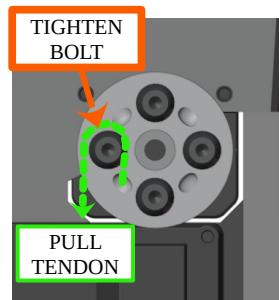

Figure 5.66: Rotation around the bolt and securing
5. Position the spool onto its servo motor and secure it with 4 M3 bolts (figure 5.66)